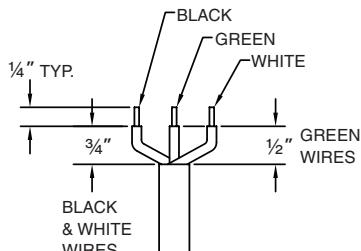
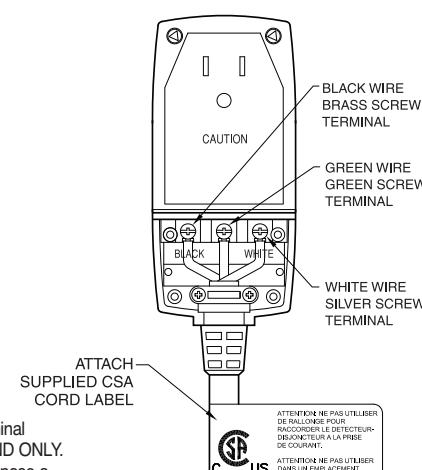

FIG. 1
FIG. 2
1. Remove strain relief cover. Mark wire and carefully prepare as noted in Fig. 1. Slide cable seal grommet(s) over cable jacket before attaching wires to terminals. Orient as shown in Fig. 2.
WARNING: DO NOT capture the conductor insulation, and also make sure that no loose strands of wire protrude outside the terminal area which could contact strands from the other conductors. (See Fig. 2 and Fig. 3)